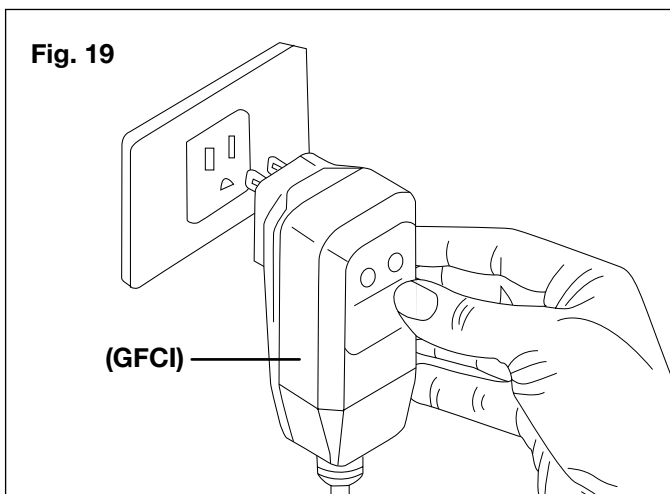

Fig. 19
15. Check that the electrical supply voltage and frequency (Volt/Hz) correspond to those specified on the washer rating plate. If the power supply is correct, you may now plug the washer into the power outlet (Fig. 19).